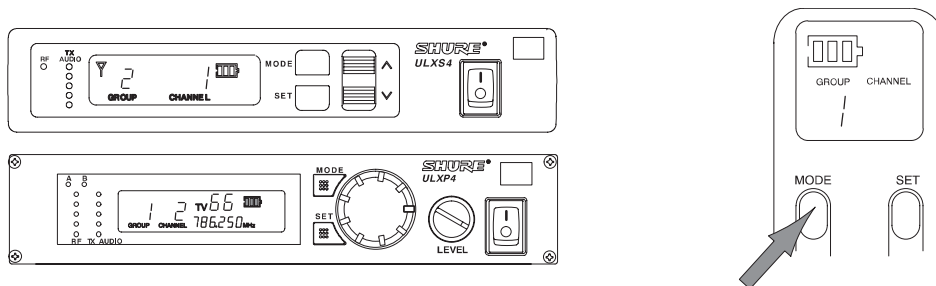

FIGURE 25
1. Note the Group number and Channel number on the receiver display. Press and hold the MODE button until only the Group number is visible on the transmitter display, as shown in Figure 25.